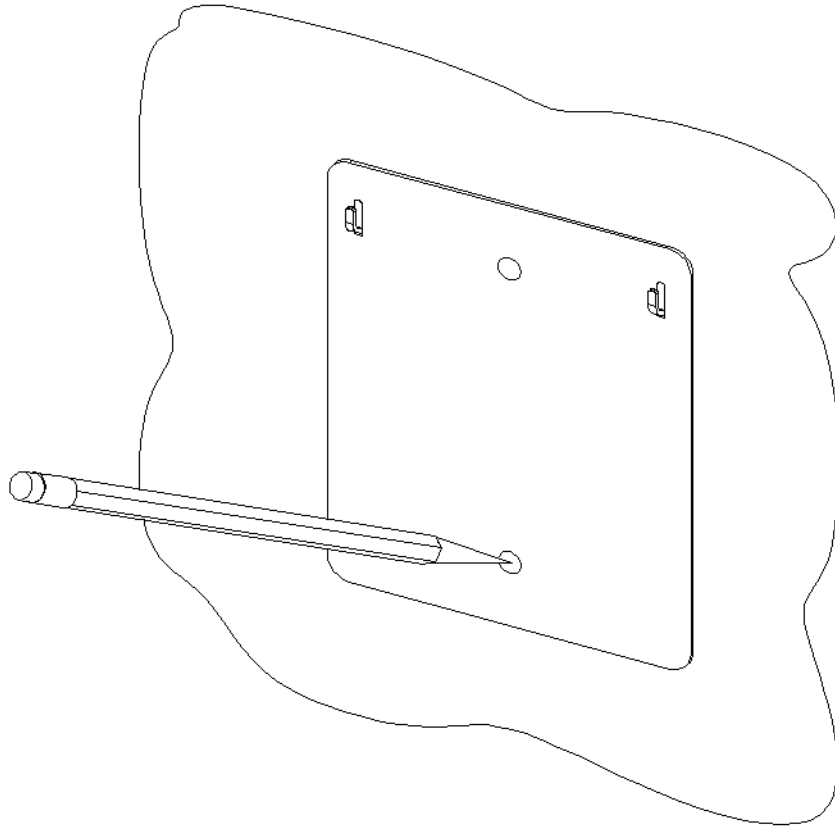

Figure 16: Marking Wall and Drilling Pilot Hole
1. Using Bracket provided, mark wall for anchor placement. Drill a 6mm pilot hole for the plastic anchor (see Figure 16).